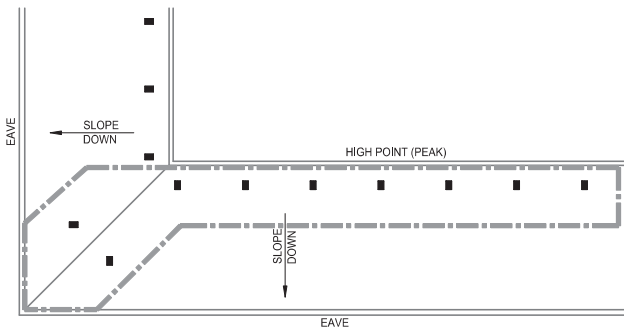

FIGURE 24A: 1 ROW PROTECTION CALCULATION
- Calculate the 7 most hydraulically demanding contiguous DS sprinklers located along the high point plus the 2 most demanding sprinklers along the hip line. See FIGURE 24A.